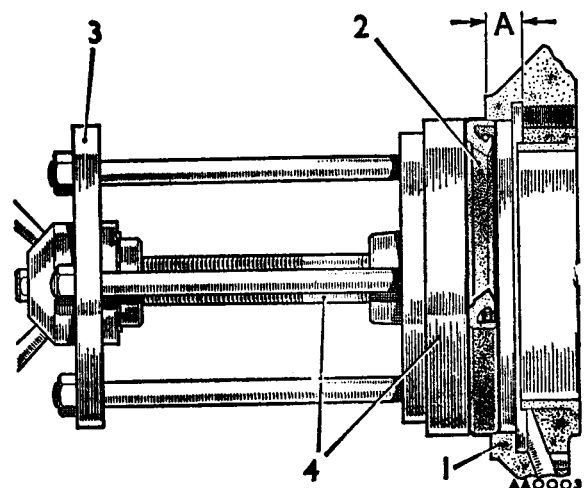

Fig. Aa.21
- Take a depth measurement from any convenient point on the periphery of the housing bore of the front face of the housing to the undercut face (see Fig. Aa.21).